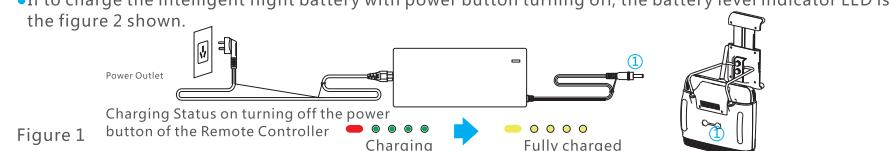

Figure 1
- If to charge the remote controller with the power button turning off, the status indicator LED is as the figure 1 shown.